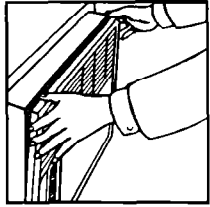

Figure 1
- On models with floppy filters, remove the slotted screw on each side of the cabinet with a standard screwdriver. Pull the front toward you and pull the filter from its recess. See figures 1 and 2.